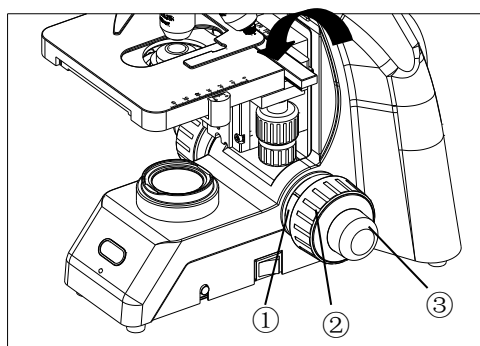

Fig.23
3.2.8 Adjusting the tension adjustment collar (Fig.23)